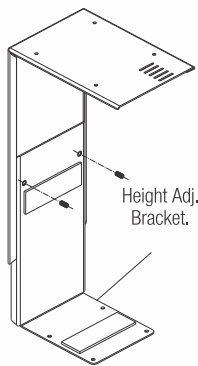

Fig. 2
2. Adjust the Height Adjustment Bracket to suitable height of the C.P.U. and tighten the grub screws provided properly. (Ref. Fig.2)
2. Adjust the height adjustment bracket to suitable height of the C.P.U. and tighten the grub screws provided properly (Refer Fig.2).
2. Adjust the height adjustment bracket to suitable height of the C.P.U. and tighten the grub screws provided properly (Refer Fig. 2).